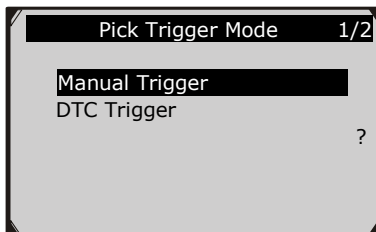

Figure 5.21
- 4) Use the **UP/DOWN** scroll button to select a trigger mode and press the **OK** button.(Figure 5.21)